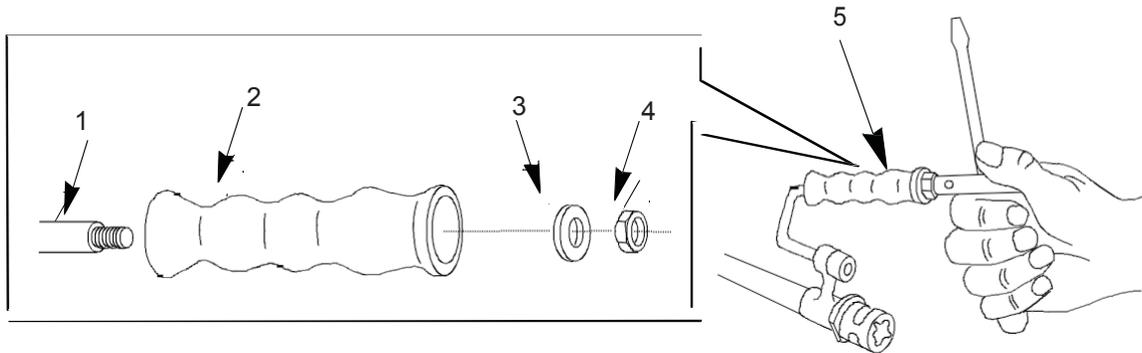

Figure 22. Grip, Washer, Nut, Wrench.
11. Install grip (Figure 22, Item 2), washer (Figure 22, Item 3), and new nut (Figure 22, Item 4) onto handle (Figure 22, Item 1) and tighten with 10 mm end of box wrench (Figure 22, Item 5).